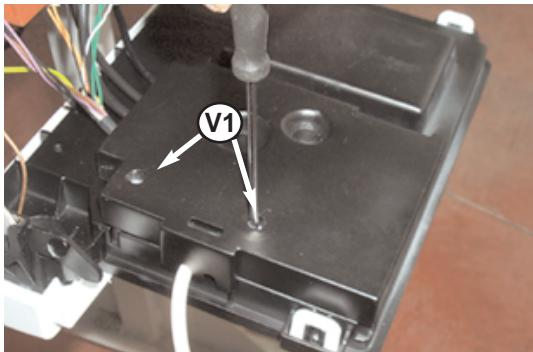

Fig. 95
4. Remove the two screws “**V1**” (see Fig. 95);